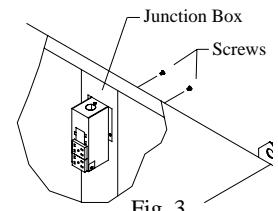

Fig. 3
**Wiring.** The electrical junction box is located in the upper inside of the divider channel. Remove the two screws and pull the box out from the channel to access wiring (Fig. 3). Connect the pump supply wiring to the pump receptacles (See the pump wiring diagrams on the next page). Connect the motor supply wiring directly to the blower motor.